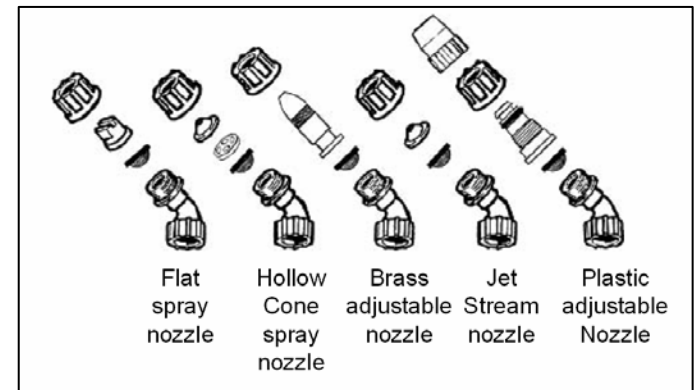

Fig. 37. Solo 475 spray nozzles.
- Nozzles: Different types for spot, narrow, wide angle, and short/long distance spraying (Fig. 37).